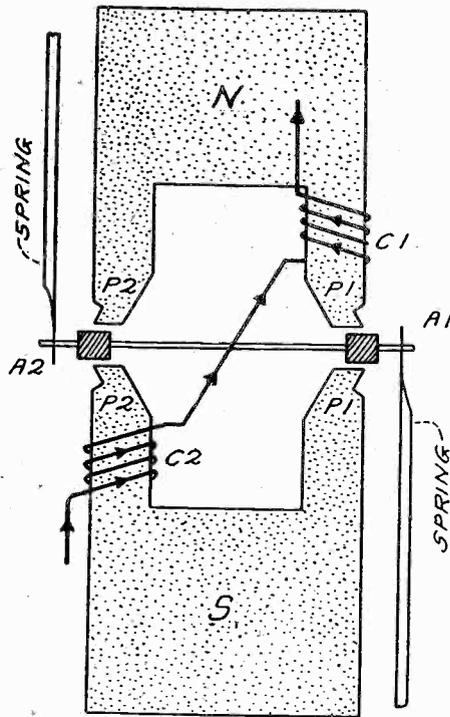

FIG. 1
C. L. Farrand, who has developed the new type of speaker, looked to the induction type of electric motor for inspiration. The principle of operation of this inductor dynamic speaker can best be explained by reference to a simplified drawing of it, which is shown in Fig. 1.